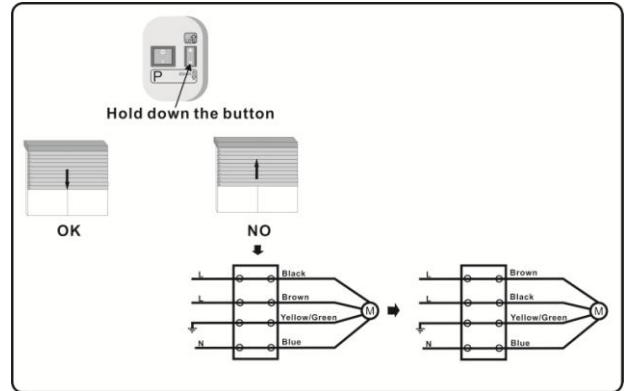

Fig.5
1.2 Check the rotation direction, Pressing Up Or Down button, the roller shutter will move in the correct direction. If not, Exchange the wire connection between black and brown wires. Refer to Fig.5